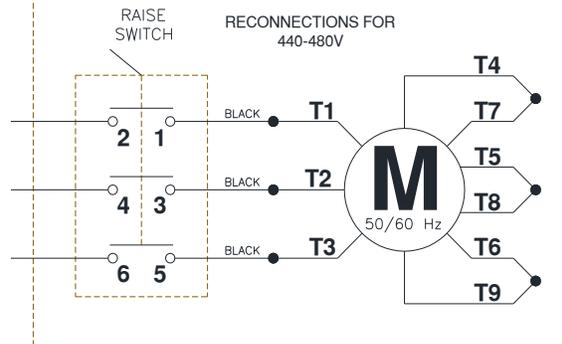

Fig. 16 – Electrical Wiring Diagram
- 42) Connect the Overhead Limit Switch Cord to Power Unit as shown in **Fig 16**.
- 43) Connect Power Unit to suitable electrical source as shown in **Fig 16**.